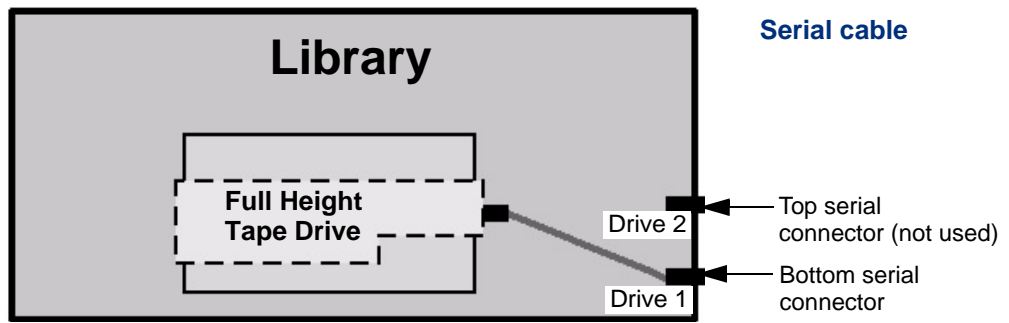
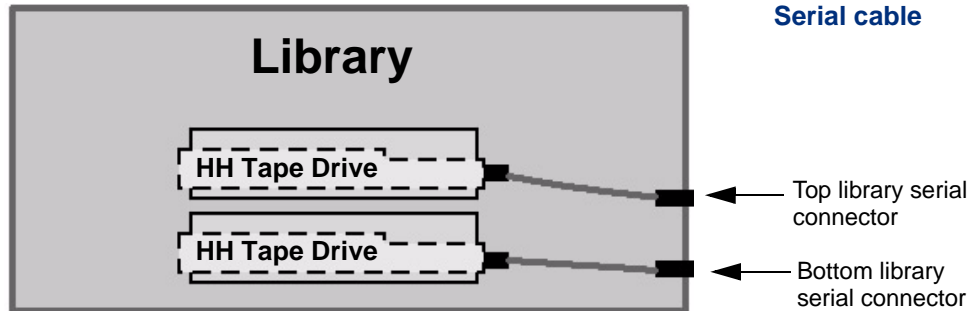

Figure 7-1 Serial cable routing—full height tape drive
Figure 7-2 Serial cable routing—half height tape drives
- a. Locate the serial cable that came in your replacement kit and attach it to the appropriate serial connector *inside the library*. For example, if you are installing a bottom drive (one drive only), attach the serial cable to the “Drive 1” connector inside the library. Note the key tabs on the serial connector face down. See Figure 7-1 and Figure 7-2 on page 172 for correct serial cable routing information.
- c. Connect the supplied serial cable(s) to the appropriate connector located on the side of the tape drive carrier. (See Figure 7-1 and Figure 7-2 on page 172.)